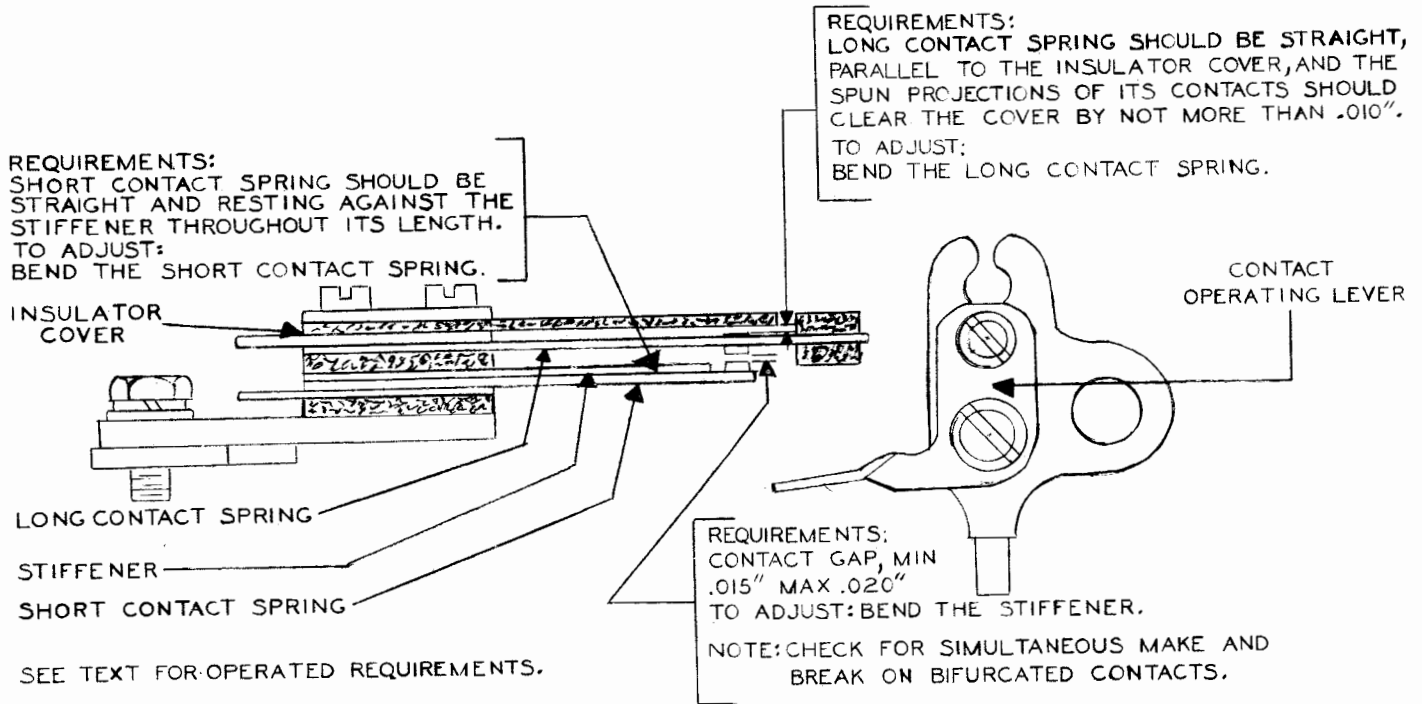

Figure 9
2.17 Platen-shift Contact Assembly (LTRS-Make Type) (See Figure 9).
Note: The following adjustments of Figure 9 and 2.17(a) and (b) should be made only when the mechanism is obviously out of adjustment. Remove the contact and bracket assembly except for the adjustments involving the operating lever. (See Figure 9.)
(a) The contact pressure should be minimum 1 ounce, maximum 2 ounces when the long contact spring is in its operated position. (See Figure 9.)
be maximum 0.004 inch with the platen in the LTRS (rear) position. (See Figure 9.)